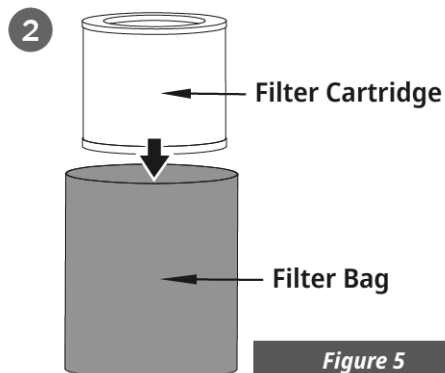

Figure 5
4. Remove bag from cartridge. (See Figure 5)